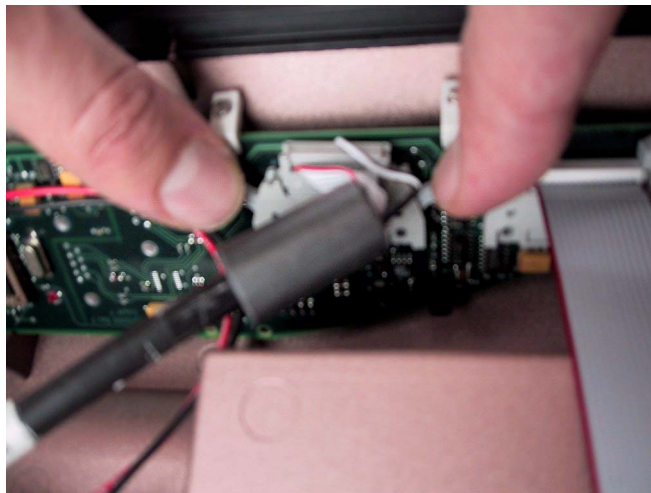

Figure 7 Unlock the Sensor Chord
11. Connect the sensor chord connector head to the clip by closing the clip hinges. See Figure 7 on page 26.